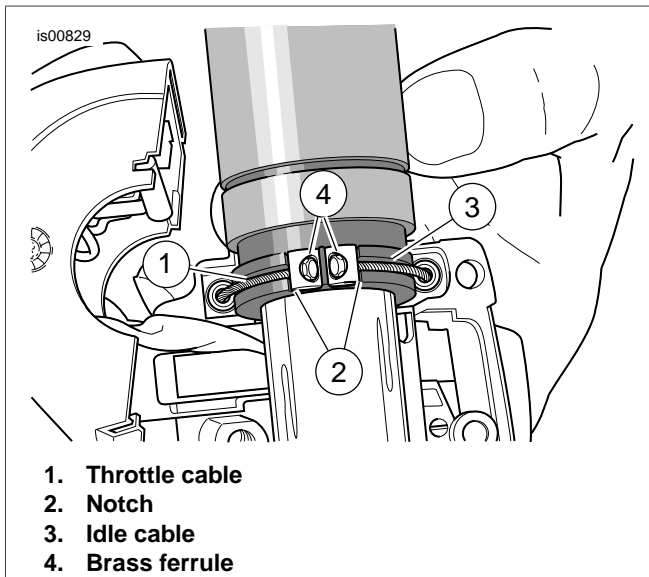

Figure 8. Throttle/Idle Control Cables
5. See Figure 8. Remove brass ferrules from notches on inboard side of throttle control grip. Remove ferrules from cable end fittings.
1. See Figure 8. Apply graphite lightly to the throttle grip inside the switch housing and on throttle end of handlebar.
6. See Figure 8. Position lower switch housing beneath throttle control grip. Install two brass ferrules (56508-76) from kit onto cables, seating the ferrules in their respective notches on throttle control grip. The cables must be captured in the grooves molded into the grip.